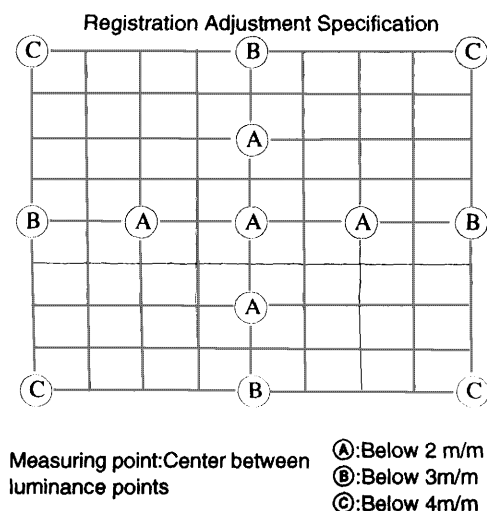

Fig. 8
- (1) Press the INPUT-A key and set the NO INPUT (31.5 KHz) state.
- (2) Press the REGISTRATION CENT key and ADJ G key, and set the GREEN adjustment mode.
- (3) Adjust so that the vertical and horizontal lines come to the center line of the screen using the ◀, ▶, ▲ and ▼ arrow keys.
- (4) Press the REGISTRATION SIZE key, and adjust so that the outer circumference of the cross-hair is at the approximately 30 m/m position inside the screen using the ◀, ▶, ▲ and ▼ arrow keys.
- (5) Set the modes LIN, SKEW, BOW, KEY, KEY BALANCE, PIN, PIN BALANCE, ZONE (Do not use ZONE as much as possible. Of the 21 blocks, adjust only the No.2 and No. 9 blocks.), and adjust to the respective specified values using the arrow keys.
- (See Fig. 8.)